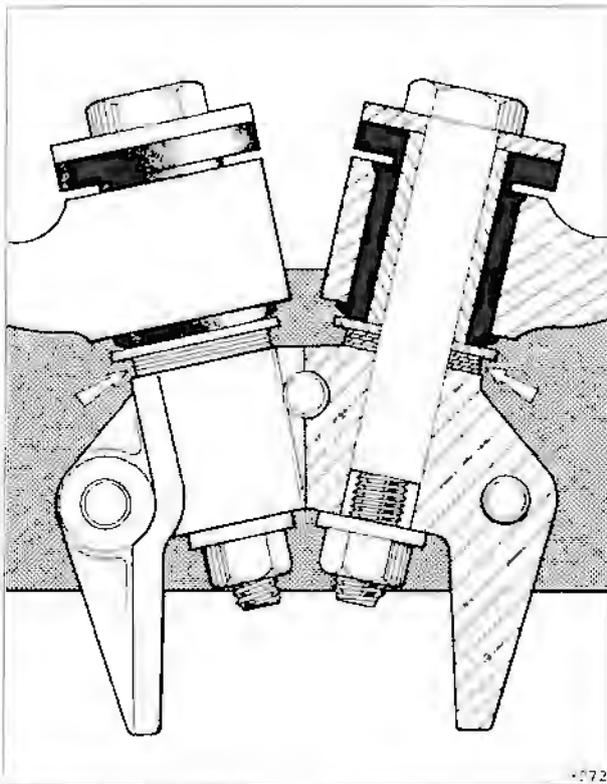

Fig. H5-1 Front triangle lever mount (shims arrowed)
8. Slacken the bolts securing the lower triangle levers to the sub-frame pivot bushes (see figs. H5-1 and H5-2).
15. Remove the bolts from the triangle lever pivot bushes and remove the triangle levers. Collect the shims if fitted (see fig. H5-1).
The bushes should be pressed in so that the large diameter buffer section of the bush faces rearwards when the lever is fitted to the cer (see figs. H5-1 and H5-2).
1. Assemble the front triangle lever onto the bearing housing as shown in figure H5-1. Do not tighten the nut or fit the shim washers at this stage.
7. Measure the distance between the bearing housing and the inner washer (see fig. H5-1). Select the number of shims required to fill this distance, rounding up or down to the nearest shim.